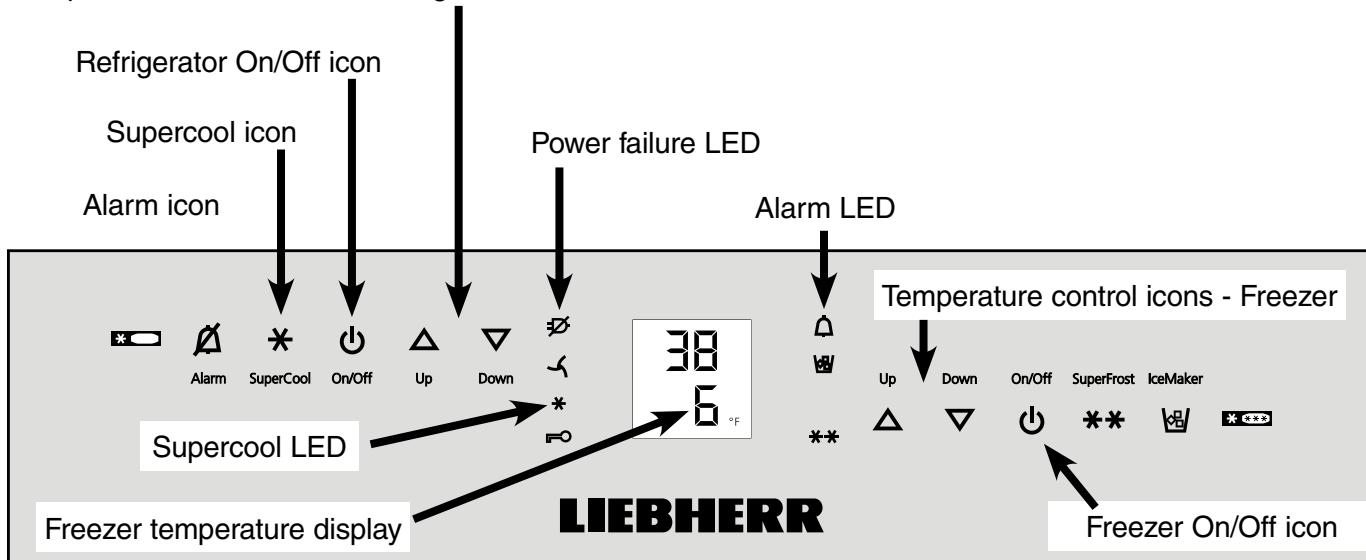

Figure 8
- Figure 8
Setting the Temperature - Figure 8
Temperature Display - Figure 8
Power Failure/Frost-Control Display - Figure 8
Audible alarm signal - Figure 8
Supercool - Figure 8